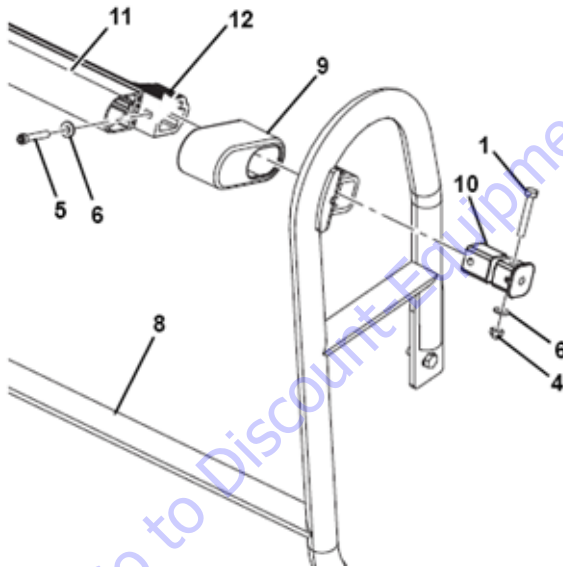

Figure 4-21.
4. Position SkyGuard switch assembly with sensor cover onto the SkyGuard Support Bracket (8) as shown in Figure 4-21.
5. Insert a Shear Block Support (10) through shear block housing on the SkyGuard support bracket and into the platform sensor mount. See Figure 4-21.
**NOTE:** Ensure the correct position of Shear Block Support (10) before installation.
6. Secure the shear block on welded mount of SkyGuard support bracket using Bolt (1), relevant Washer (6) and Acorn Nut (4) as shown in Figure 4-21.
7. Secure the SkyGuard switch assembly using Bolt (5) and relevant Washer (6) on platform sensor mount. See Figure 4-21.
**NOTE:** Tighten the Bolt (5) using appropriate allen wrench.
WHEN THE SKYGUARD IS PUSHED WITH EXCESSIVE FORCE THE SENSOR SUPPORTS (ITEM 10 - FIGURE 4-21.) WILL BREAK. REPLACE WITH NEW SENSOR SUPPORTS BEFORE CONTINUING OPERATION OF THE MACHINE.